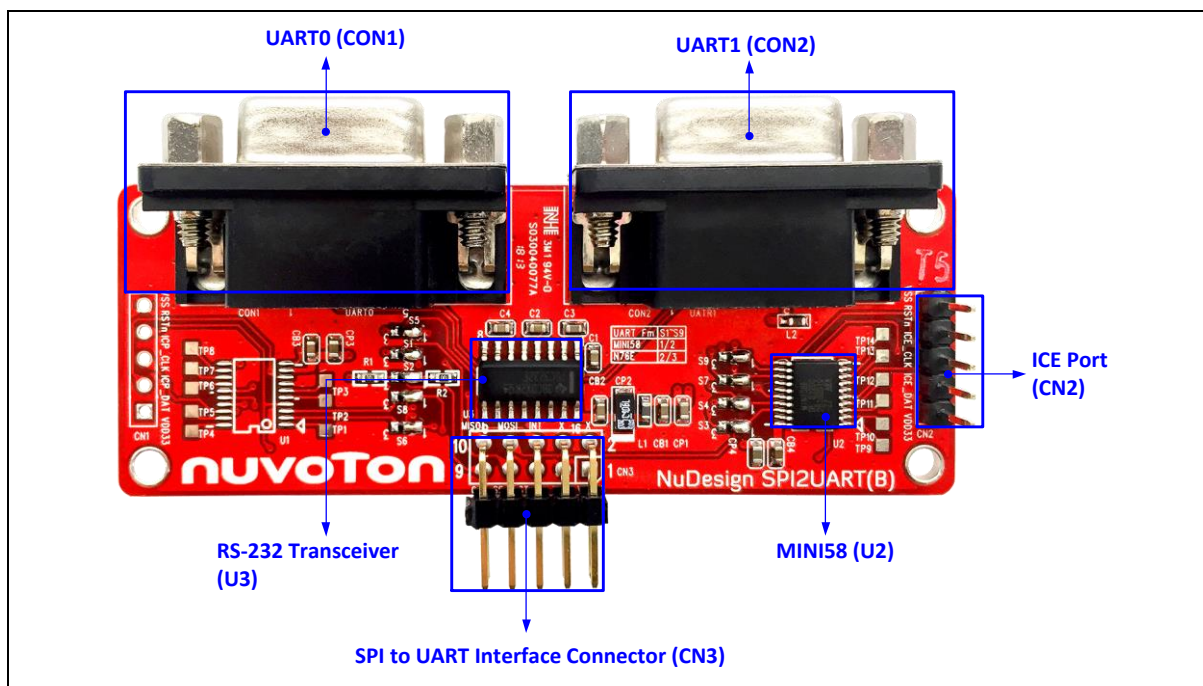

Figure 2-5 NuDesign-SPI2UART(B) PCB Board (Front View)
Figure 2-5 shows the front view of NuDesign-SPI2UART(B) PCB board.